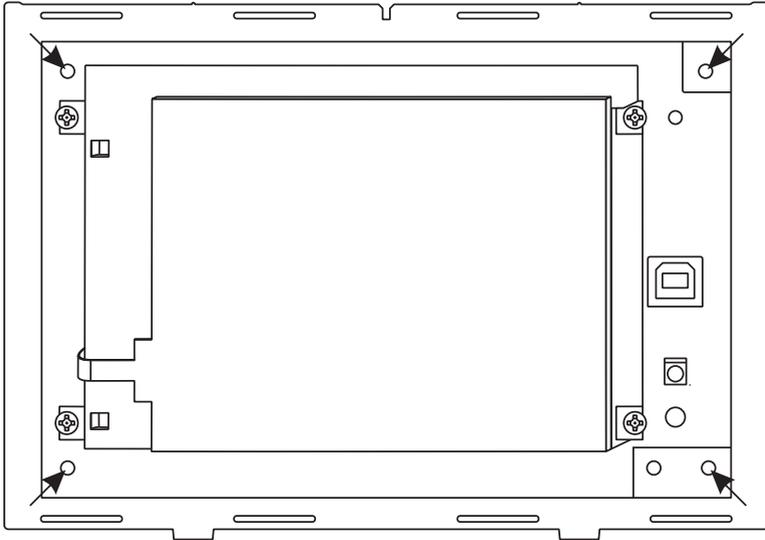

Figure 8. Remove the flaps and insert the screws into the identified holes
6. Insert the screws provided in the parts pack through the holes identified in Figure 8.